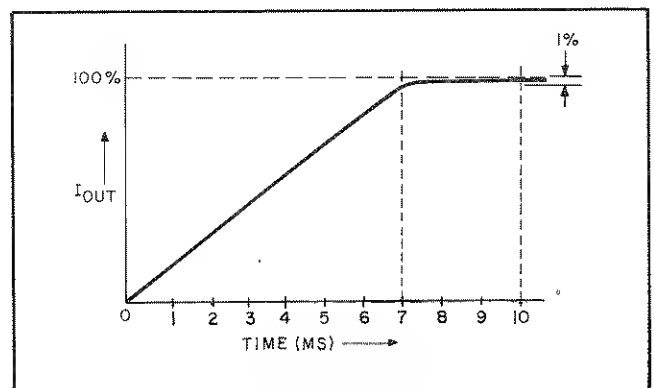

Figure 5-8. Up-Programming Speed Waveform
- Programming speed should be within tolerances of Figure 5-8. Output should rise from zero to 297 volts within 10 milliseconds. Fall time (down programming) should be almost identical to rise time shown in Figure 5-8 except for inversion.